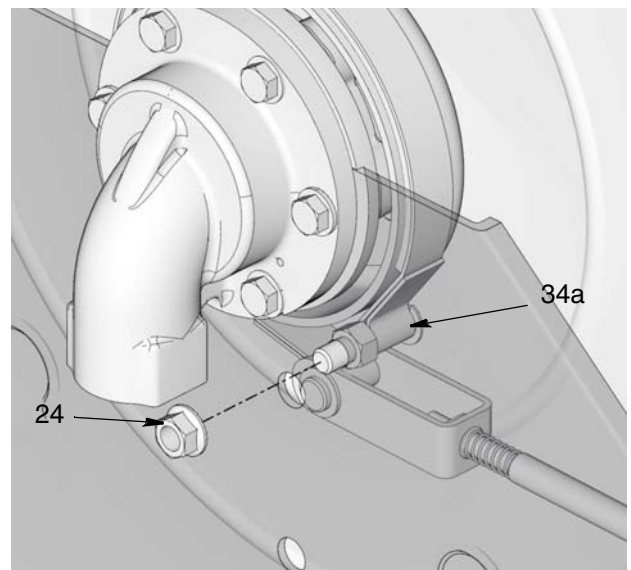

FIG. 48
- c. Install nut (24) over anchor pin (37) and tighten securely (FIG. 48).